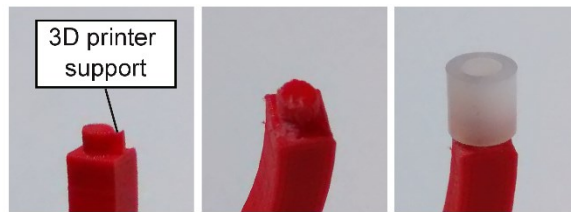

**Figure 3: Hopper assembly diagram. Red, dark blue, and green dashed lines show path of threaded rods. Light blue line shows connection point of the Arm.**
3. Assemble the hopper by connecting the hopper sides, hopper bodies, motor holder (with the motor) and pellet guide pieces using the threaded rod (Figure 3). We recommend starting by threading a washer and nut over the first few millimeters of one end of each of the threaded rods. Then advance the threaded rods through the three holes in the